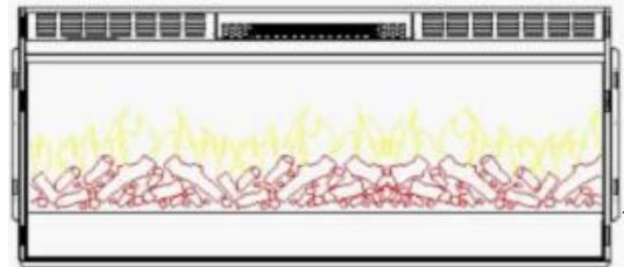

Figure 1.
- C. Place unit face down on a soft, non abrasive surface. Remove the bracket from the back of the unit by removing the screws, refer to Figure 1.
- B. If you want your fireplace with log-set, remove the log-set from the package, put it to the fireplace designed place. **Figure 1.**